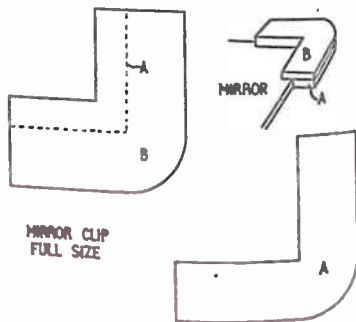

Fig. 5
The mirror should measure about 7ins. by 5ins., and is held in place by four clips made from wood as shown in Fig. 5. The pieces (A) and (B) are shown full size and are glued together as indicated in the inset diagram. The thickness of piece (A) depends upon the mirror, but 1/4in. thick should be enough. Piece (B) is also cut from 1/4in. wood. The